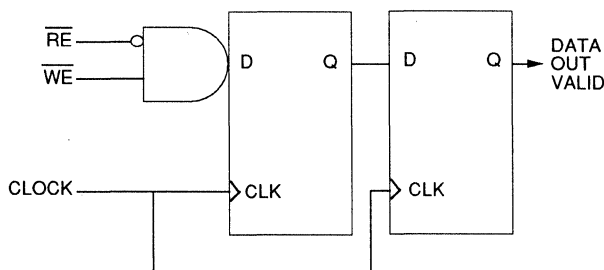

Figure 1.
READ ENABLE (\overline{RE}) — Initiates a read of the FIFO during the next clock period (providing the \overline{WE} is not asserted during the same clock period). The data from the FIFO is registered and appears on the Data Out (DO) pins during the second clock period after the corresponding \overline{RE} . The data will be valid until the next entry is read. \overline{RE} may be asserted continuously to read out successive FIFO entries; however, note that reads have lower priority than writes and will be blocked whenever \overline{WE} is asserted during the same clock period. [This condition may be detected by forming a "Data Out Valid" signal from the ANDing of one-clock-period-delayed versions of the \overline{RE} and \overline{WE} signals, as in Figure 1.]